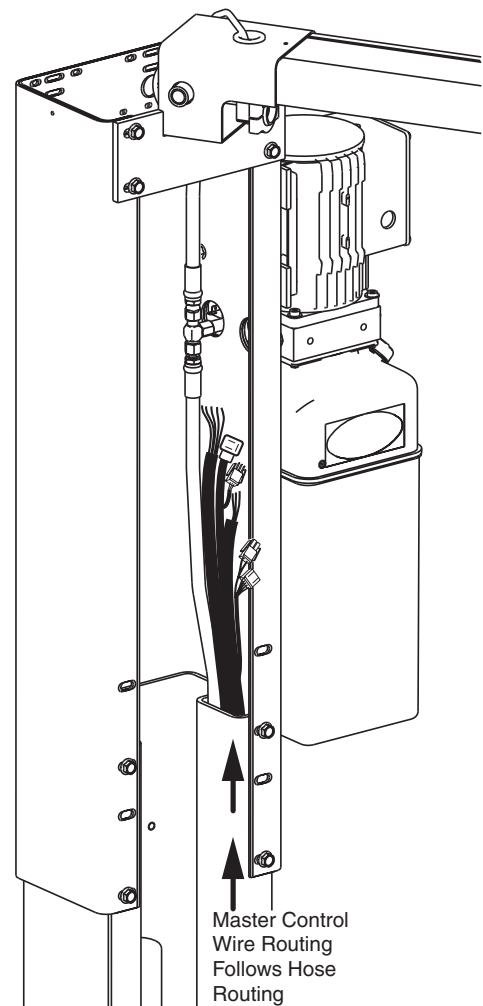

Fig. 18
- E) Return to Master control panel and route all cords up through column along the hose routing, Fig. 18.